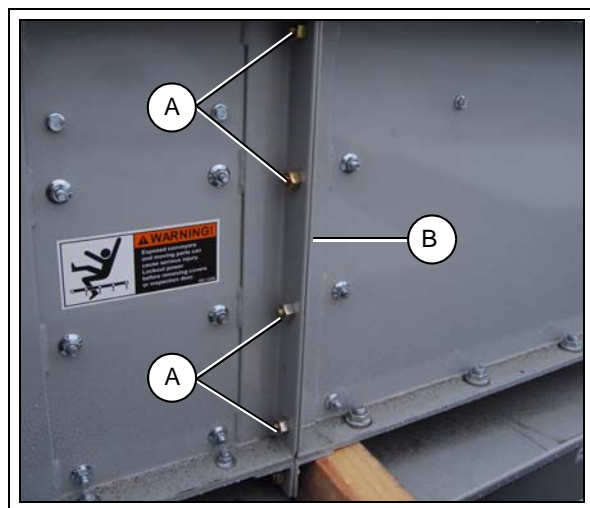

Figure 6G
4. Attach the intermediate sections together with the supplied 1/2 inch hex bolts and flange nuts. (See Figure 6G on Page 18.)
5. Once each flange joint (B) is aligned, tighten hardware (A).